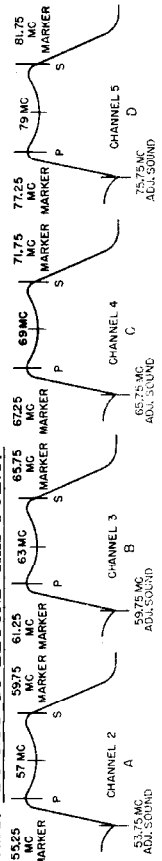

FIG. 6
9. Tune the sweep generator to 21.9 MC. with a 1 MC. sweep and view the pattern on the oscilloscope. The pattern should be similar to that shown in Figure 6.